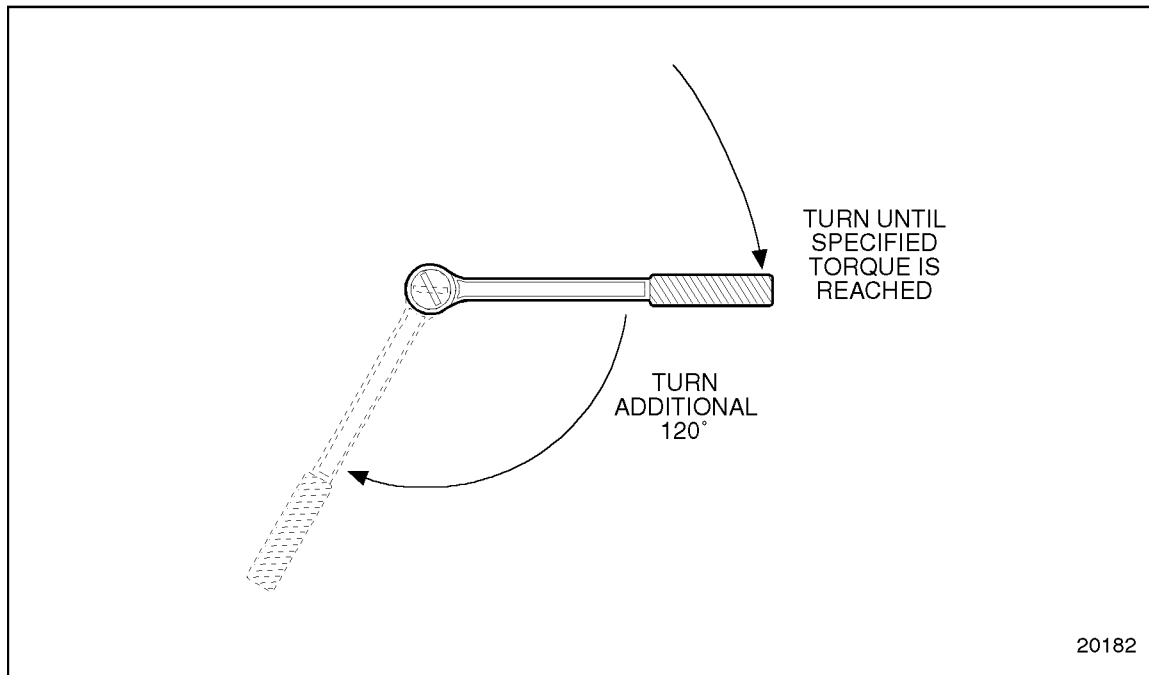

Figure 1-362 Torque Turn Limits
23. Turn bolt an additional 120 degrees. See Figure 1-362.